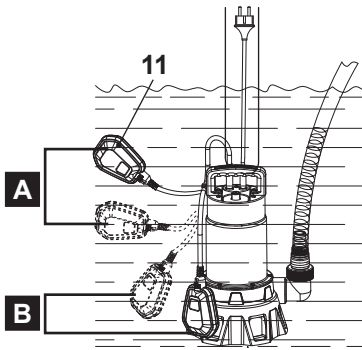
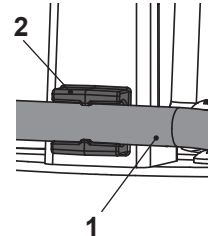

Fig. 5
Fig. 6
NOTE: The float switch (11) contains a ball that activates a switch. The product works only if the float switch is above position A, position B corresponds to the switch off level for the pump (Fig. 5).
The product is started at a certain water level by the float switch (11) (switch on level) (Fig. 5, A). The product continues pumping until the water level is lowered to a particular height and then the float switch turns the product off (switch off level) (Fig. 5, B).
1. Adjust the height of the relative switch on and off levels within certain parameters by lengthening or shortening the free cable length of the float switch cable (1).
2. Fix the float switch cable (1) to the cable clip (2) afterwards (Fig. 6).